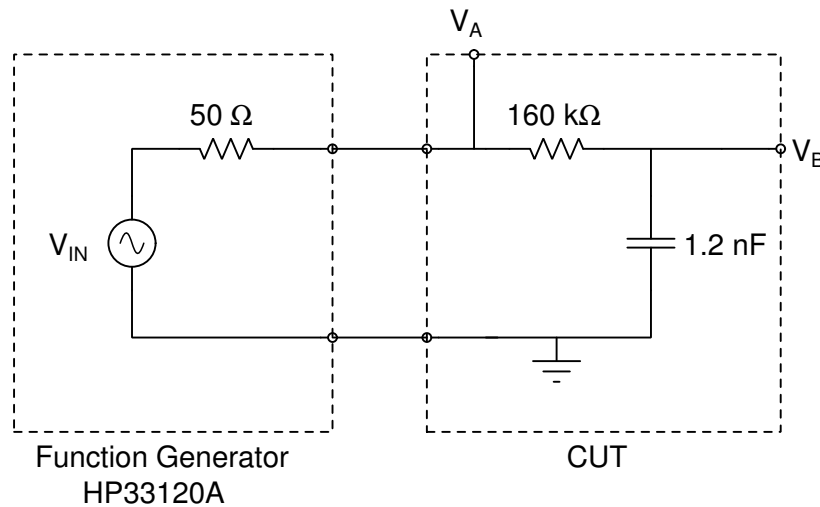

Figure 1: Circuit to be analyzed in Lab #2.
The circuit under test (CUT) is shown in Figure 1. Node voltages V_A and V_B will be measured using the two input channels on the oscilloscope. As in Lab #1, the input impedance of each channel will influence the circuit behavior. Also, the 1X probes are not explicitly shown between the CUT and the measurement equipment. However the probe capacitance can also influence the circuit behavior.
2. For the RC circuit shown in Figure 1:
- For the circuit shown in Figure 1, use NGspice to simulate the node voltages V_A and V_B and the phase shift (PS) in degrees between the two nodes. Set the peak voltage to 5 V. Record your results in the “Ideal Simulated Circuit” columns in Table 1.
- Modify the circuit schematic shown in Figure 1 to include the 1X probe capacitances and the input capacitance of the oscilloscope at both nodes V_A and V_B . Use NGspice to simulate the node voltages V_A and V_B and the phase shift (PS) in degrees between the two nodes. Set the peak voltage to 5 V. Record your results in the “Complete Simulated Circuit” columns in Table 1.
- Measure the values for each component needed in the circuit shown in Figure 1 using the LCR meter and a DVM. When measuring the capacitance, measure both C and DF at frequencies of 100 Hz, 1 kHz, and 10 kHz. Calculate the ESR of the capacitor. Can the ESR be ignored? Explain your reasoning in your notebook.
- Build the circuit shown in Figure 1. Set the V_{IN} to a 5 V peak sine wave at a frequency of 100 Hz. Make sure the peak voltage is really set to 5 V by measuring V_{IN} on the scope.